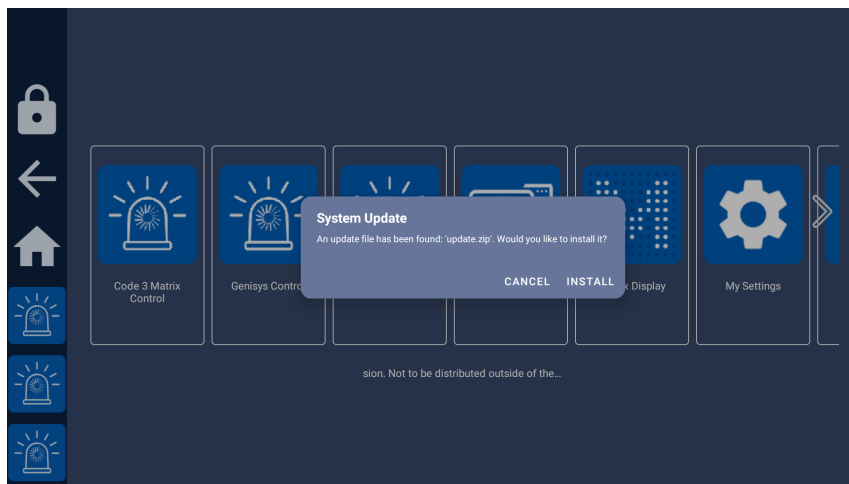

Figure 26: Update dialog
4. After a few seconds, a dialog will pop up, notifying that an update has been found on the USB drive (see Figure 26). Select “Install” to install it.